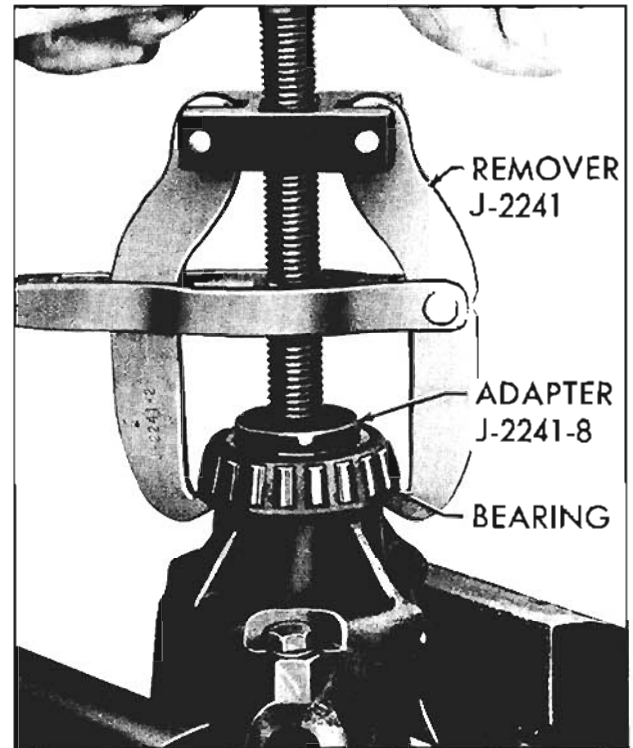

Fig. 10-113 Removing Differential Side Bearing
1. If differential side bearings are to be replaced, insert Remover Adapter J-2241-8 or J-8615 in center hole and pull bearing using J-2241 or TR-278-R. See Fig. 10-113.